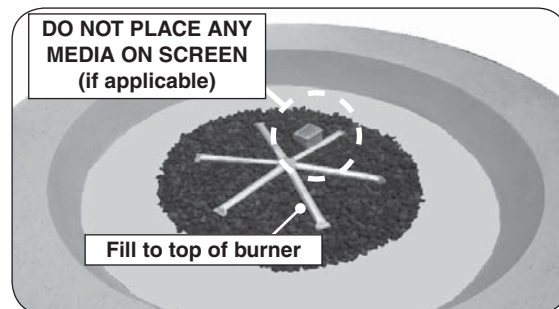
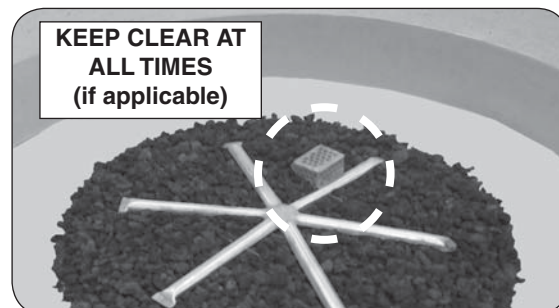

Fig. 33-1 Place lava granules
Fig. 33-2 Screen detail (if applicable)
1. Pour the 10 lb bag of lava granules into the burner area (with the exception of the screen - if applicable). Spread the granules within the burner area as shown in Fig. 33-1 and Fig. 33-2. **Only fill the granules up to the top of the burner tube.**
Note: Select 12" star burner models only require half of the lava granules bag. **Do not overfill.** See Fig. 33-1 and Fig. 33-2.